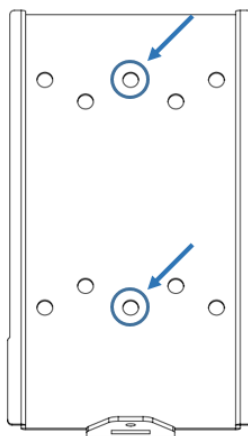

Figure 2-4 Mounting Bracket Screw Hole Locations
6. Install the EVSE (charging station box) brackets to each side of the pedestal so that the middle of the bracket is approximately 48 inches from the ground. Only two screws will be used to attach the mounting bracket to the pedestal, the screws should pass (install) through the middle two vertical screw holes of the mounting bracket as shown in Figure 2-4.